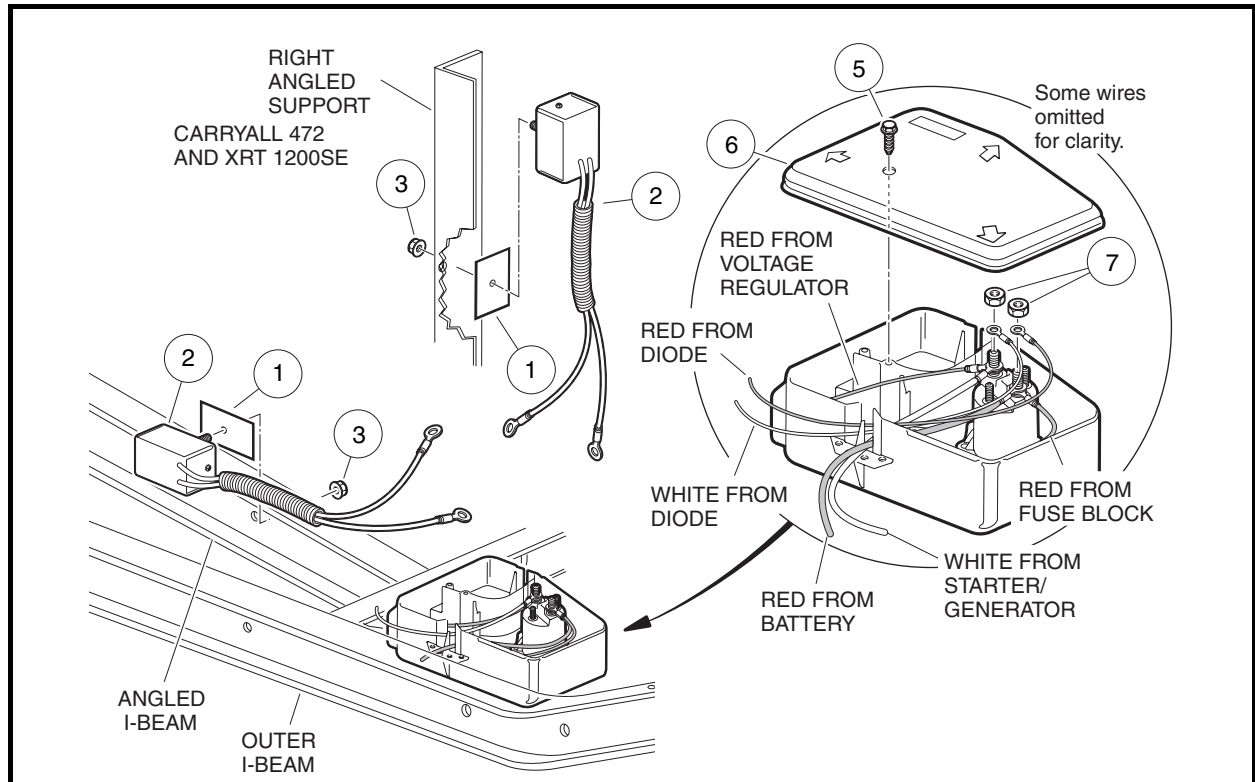

Figure 12-17 Electrical Component Box and Diode Orientation
4. Remove the cover screw (5) and electrical component box cover (6) (**Figure 12-17, Page 12-13**).
5. Remove the nuts (7) from the two large solenoid posts and disconnect the diode wires from the solenoid.
2. Peel the protective film from both sides of the new thermal pad (1) (**Figure 12-17, Page 12-13**). **See following CAUTION.**
3. Mount the diode (2) using the thermal transfer pad (1) and mounting nut (3) and tighten to 25 in-lb (2.8 N·m) (Figure 12-17, Page 12-13). See following NOTE.
- 4.1. Connect the 12-gauge red wire from the diode to the solenoid post with the fuse block and battery red wires and tighten locknut to 90 in-lb (10.2 N·m) (Figure 12-17, Page 12-13).